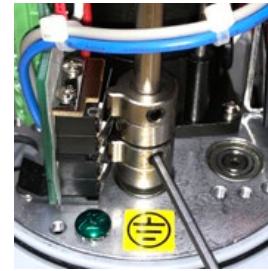

Fig 2 - CW EOT Cam adjustment
a. Use the side-mounted 5mm hex manual override drive socket to drive the actuator out to about 15~20 degrees open, then back to the desired CLOSED (CW) position. If you have driven the device too far, you must drive back out to 15~20 degrees before again approaching the correct CW stop. You cannot set the stop when driving in a CCW direction due to cam dwell angle.
b. Using a 2.5mm hex key on CAM #2 (Fig 2), loosen the cam set screw and rotate the cam CCW by pushing the hex key to the LEFT a few degrees. Lightly snug up on the set screw until resistance is felt against the cam shaft. Pull the hex key to the RIGHT SLOWLY until you hear a "click" from the associated (#2) cam switch and snug up on the cam setscrew. Do not move the actuator. No need to overtighten the cam setscrew.